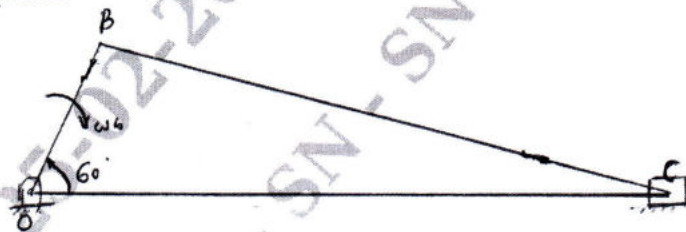

Fig. Q3
- 3 In a slider crank mechanism, the crank  $OB = 30$  mm and the connecting rod  $BC = 120$  mm. The crank rotates at a uniform speed of 300 rpm clockwise. For the crank position shown in Fig. Q3. Find (i) Velocity of Piston 'C' and angular velocity of connecting rod BC. (ii) Acceleration of Piston 'C' and angular acceleration of connecting rod BC. Solve the relative method. (16 Marks)